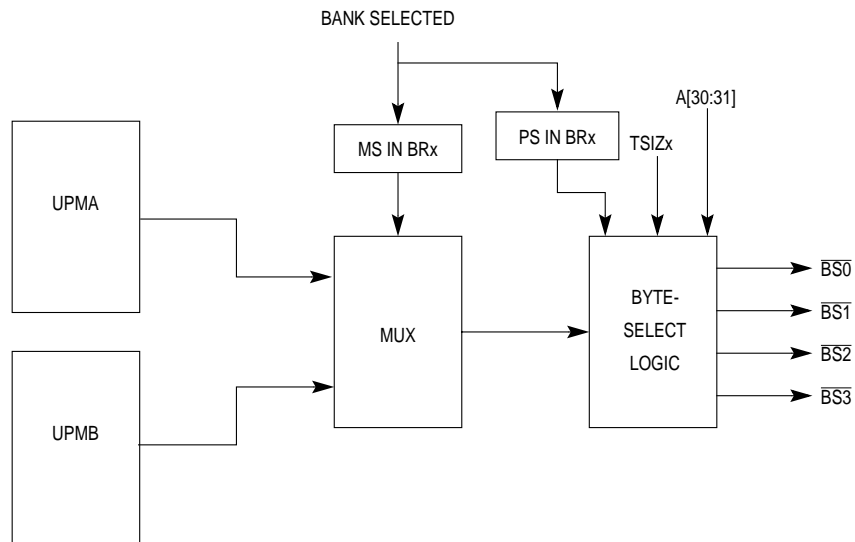

Figure 15-29.  $\overline{BS}_x$  Signal Selection
**15.5.4.2.3 Byte-Select Signals.** The MS field in the base register of the accessed memory bank selects a user-programmable machine on the currently requested cycle. The selected UPM only affects the assertion and negation of the appropriate  $\overline{BS}_x$  signal and its timing as specified in the RAM word. The  $\overline{BS}_x$  signals are also controlled by the port size of the accessed bank, the transfer size of the transaction, and the address accessed. Figure 15-29 illustrates how the  $\overline{BS}_x$  signals are controlled by the user-programmable machines.